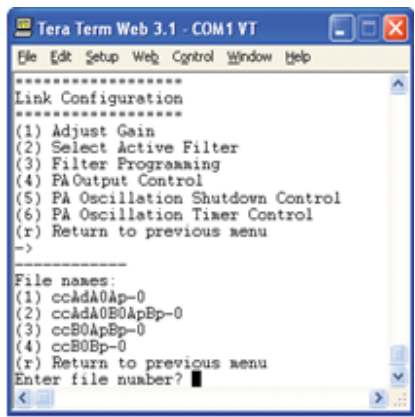

Figure 4-10: Selecting Filter Programs
All the other options operate in much the same way. Some of the options will offer the user additional selections and will be self-explanatory. Below is one example of these additional options, the one shown in Figure 4-10 is the result of selecting **(3) Filter Programming**.